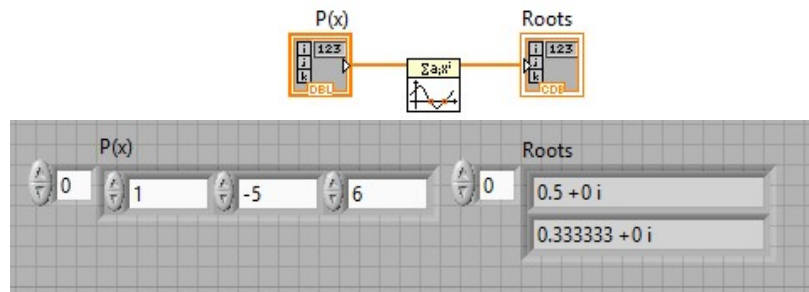

Figure 2: Block panel and front panel view for Task 1
7. Press CTRL+E to switch between panels. In Front panel stretch control and indicator, to create array as shown in Figure 2.